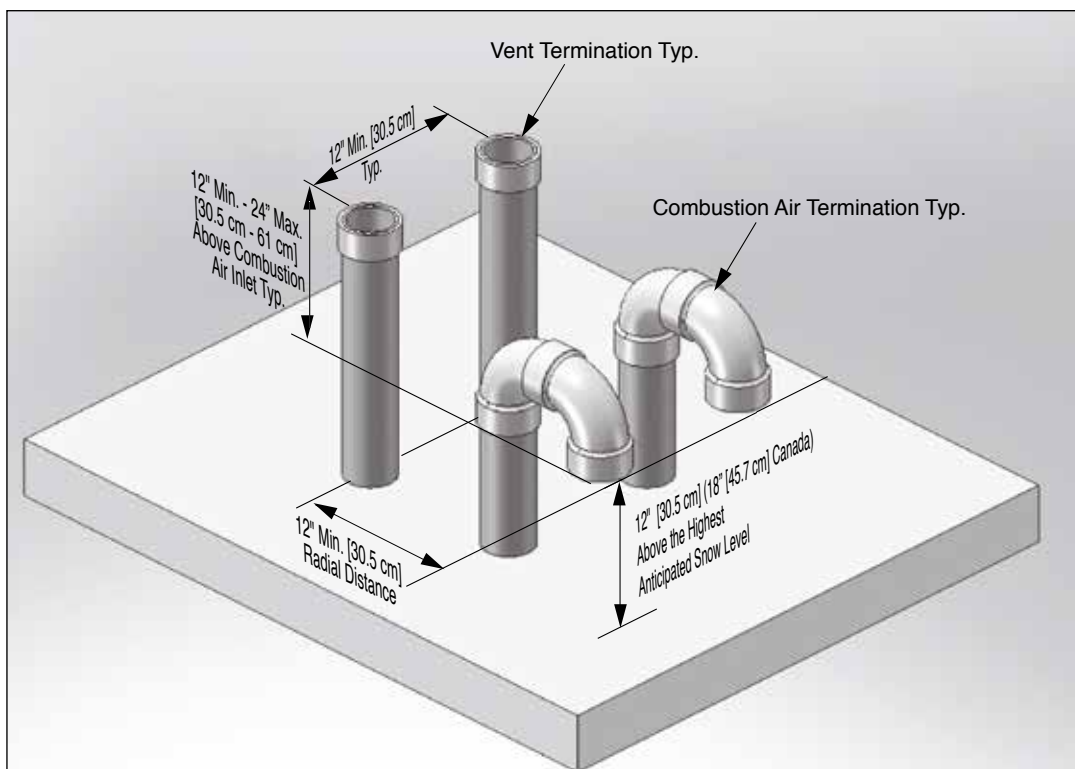

Fig. 5 - Direct Vent - Vertical Termination of Multiple EXALT Boilers
2. The roof penetration of the vent and combustion air piping must be such that the combustion air inlet is a minimum 12" [30.5 cm] from the adjacent vent pipe of the other boiler for installations in the U.S. as shown in *Fig. 5* on page 14. For installations in Canada, provide clearances as required by CAN/CSA B149.1.